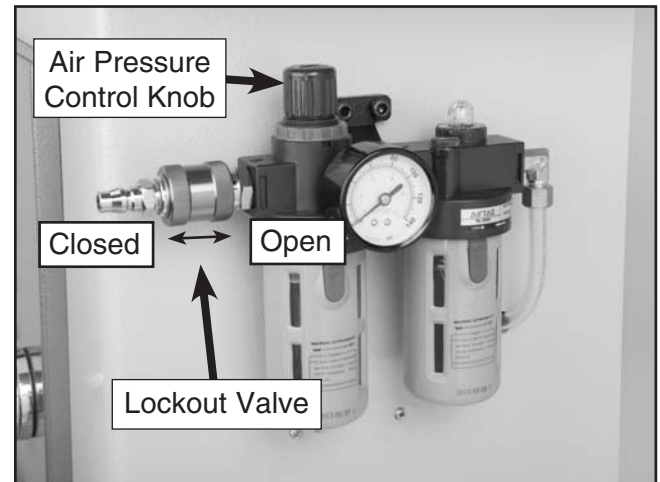

Figure 16. Filter/lubricator/regulator located on the left-hand side of the cabinet.
1. Locate the filter/lubricator/regulator on the left-hand side of the cabinet (see **Figure 16**).